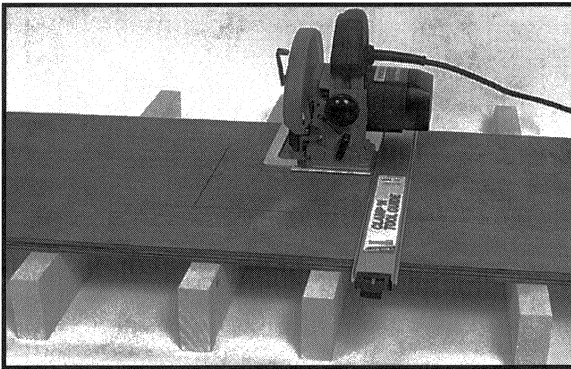

Fig. 10
**WARNING: GUARD AGAINST KICKBACK.** Kickback occurs when the blade is pinched and the saw is driven back towards the operator. Keep body to side of blade. Stay alert and maintain firm grip on saw for control. Release switch immediately if blade binds or saw stalls. Keep blades sharp. Support panels as shown in Fig. 10. Use fence or straight edge guide when ripping. DO NOT force tool. DO NOT remove saw from work during a cut while blade is moving.
For making wider cuts, such as might be made in plywood and wide sheets, a wooden guide strip, against which the left edge of the saw base can be guided, can be tacked or clamped to the work, as shown in Fig. 10. NOTE: The depth of cut must be adjusted to allow for the thickness of the wooden guide strip.